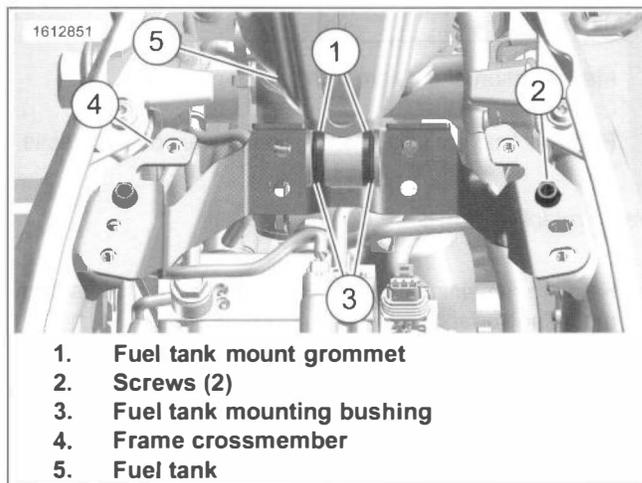

Figure 3-115. Frame Crossmember
1. See Figure 3-115. Remove crossmember.
- a. Remove screws (2).
- b. Slightly raise fuel tank (5).
- c. Remove crossmember (4).
- d. Remove fuel tank mounting bushings (3) and fuel tank mount grommets (1).
1. See Figure 3-115. Install frame crossmember (4).
- a. Install fuel tank mount grommets (1) and fuel tank mounting bushings (3).
- c. Install frame crossmember (4).
- d. Install screws (2). Tighten.